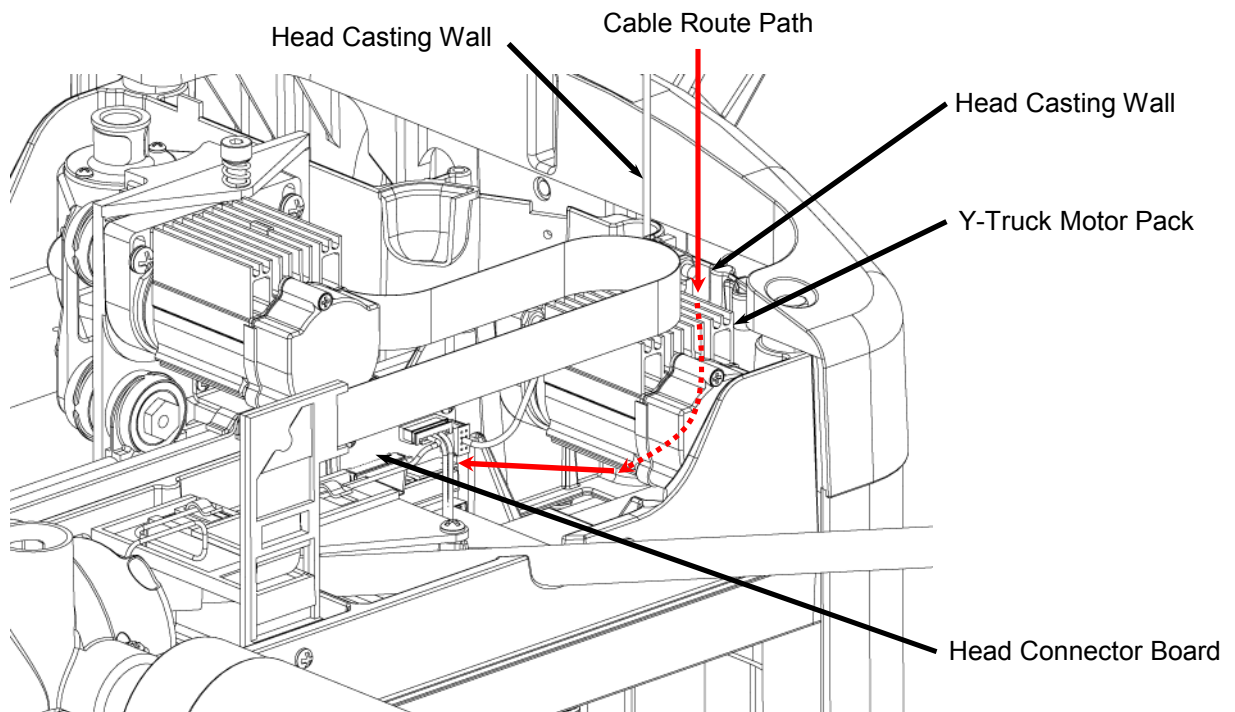

FIGURE 22: ROUTING THE HEAD CABLE HARNESS
- c. Route the Head Cable Harness down between the wall of the head casting and the side of the Y-motor pack, under the Y-motor pack and plug it into the connector board as shown in Figure 22. Make sure that the connector is oriented correctly using the keying ribs and slots before plugging it in. Note that the white wire will be oriented toward the non-keypad side of the machine.